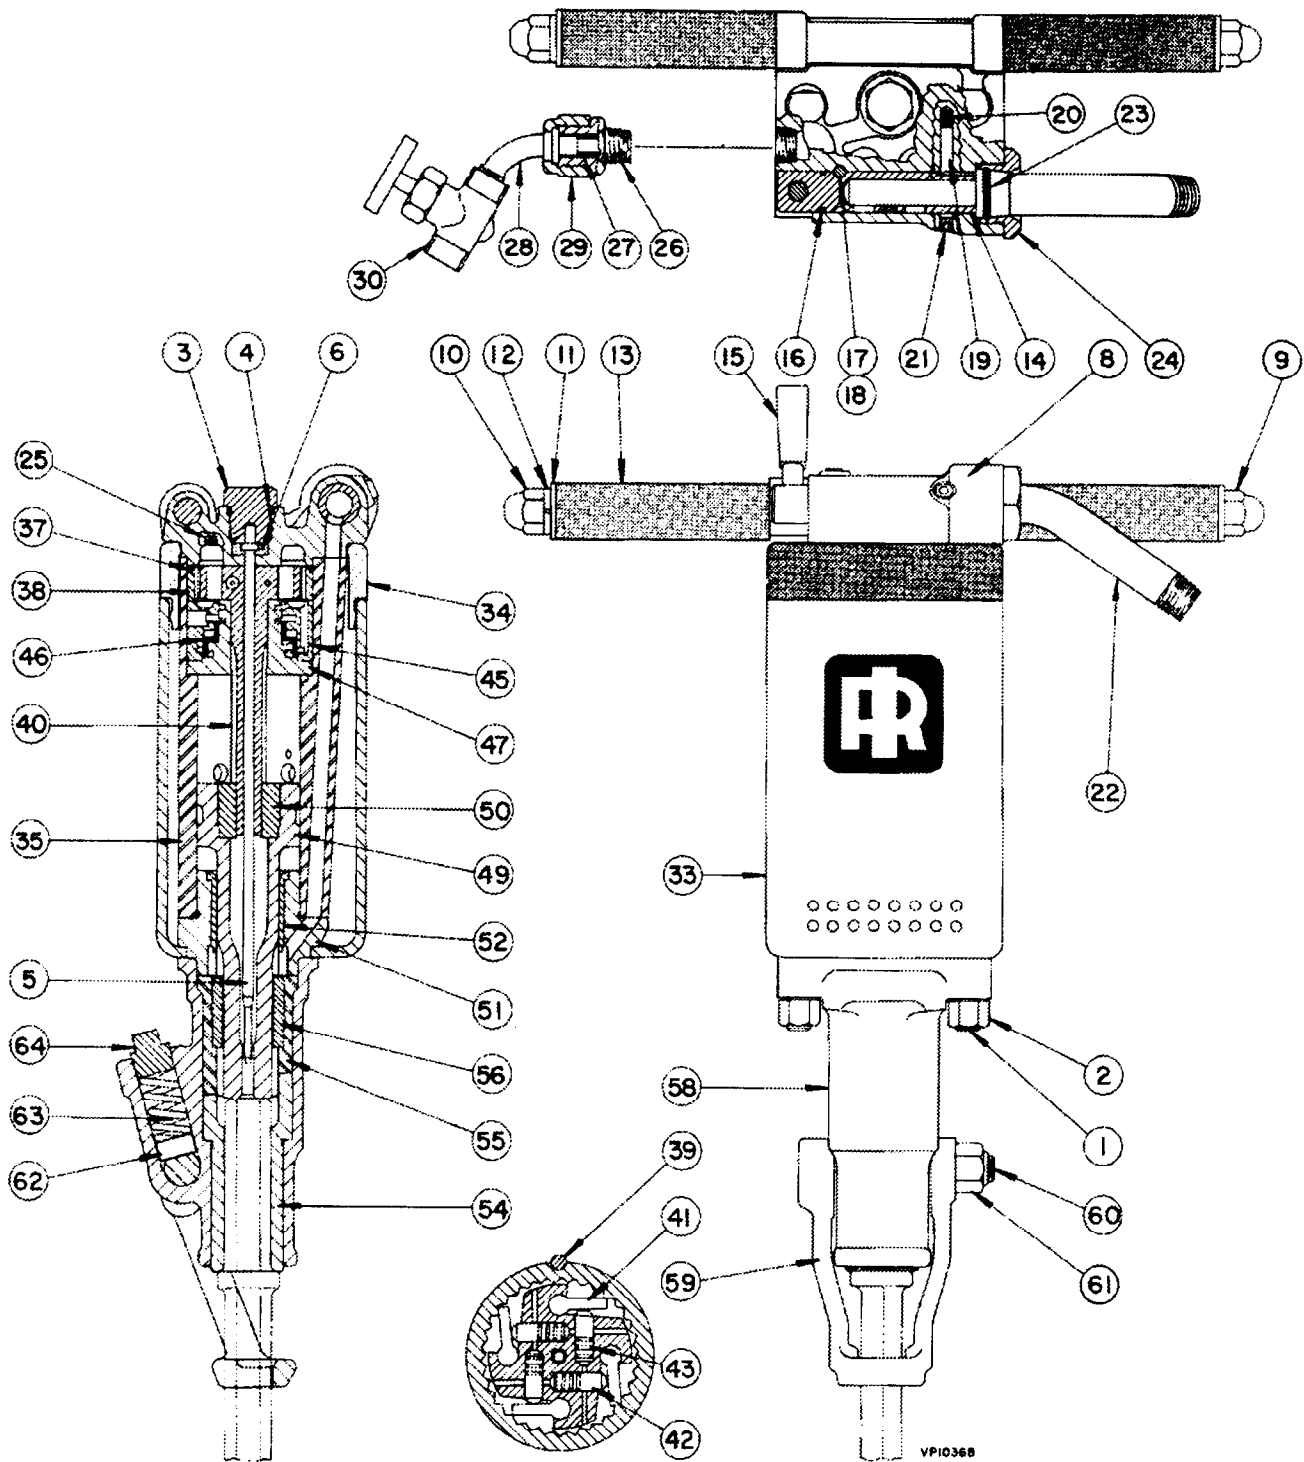

Figure 1. Jackhammer Model JH40 – Sectional Illustration
**3. DISASSEMBLY. (Figure 1)**